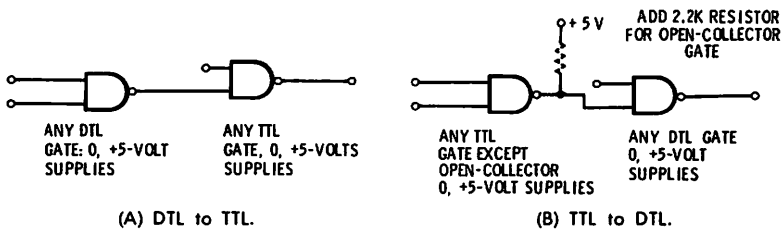

Fig. 1-13. DTL-TTL interfacing circuits.
**DTL—DTL to TTL and back again are usually directly compatible (Fig. 1-13).** Consult data sheets for fan-out information.